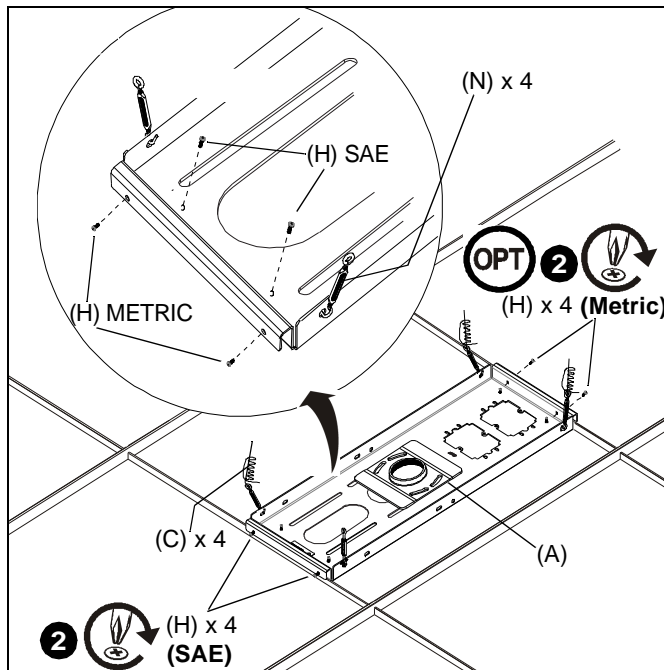

Figure 10
1. Reinstall ceiling tile (if applicable) and ceiling tray (A). Ensure proper orientation for location of hole.
2. Tighten the four 10-24 x 5/8" Phillips head screws (H) previously installed (SAE or Metric). (See Figure 10)